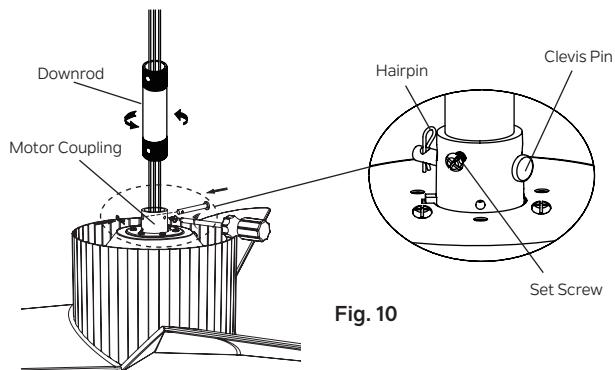

Fig. 10
**Step 4.** Carefully feed fan wires and safety cable up through the downrod. Thread the downrod onto the motor coupling until the clevis pin holes are aligned. Next, replace the clevis pin and hairpin, then tighten both set screws. (Fig. 10)